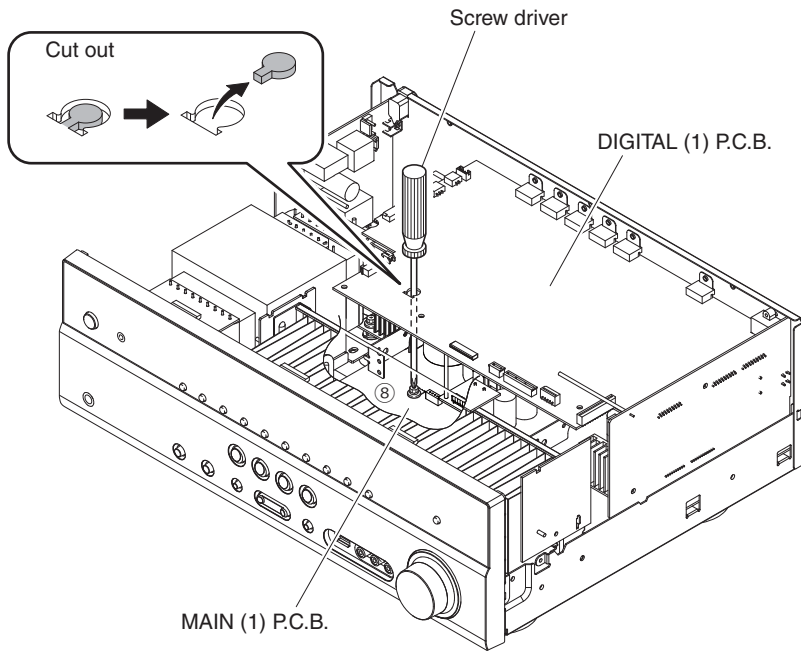

Fig. 4
- b. Cut out a part of the DIGITAL (1) P.C.B. as shown in the figure below in order that screw (⑧) can be removed. (Fig. 4)